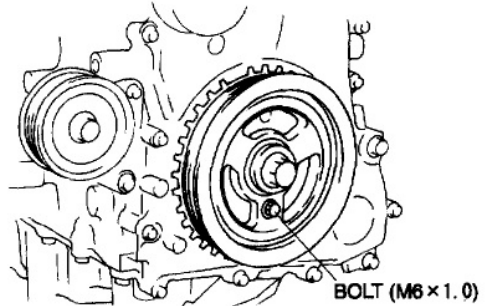

Figure 2. Temporarily Holding Bolt
4. Verify TDC of cylinder # 1 again; install the M6 x 1.0 bolt by hand as shown in Figure 2. To position the crankshaft pulley, temporarily tighten it and, using the suitable bolt, fix the crankshaft pulley to the engine front cover.